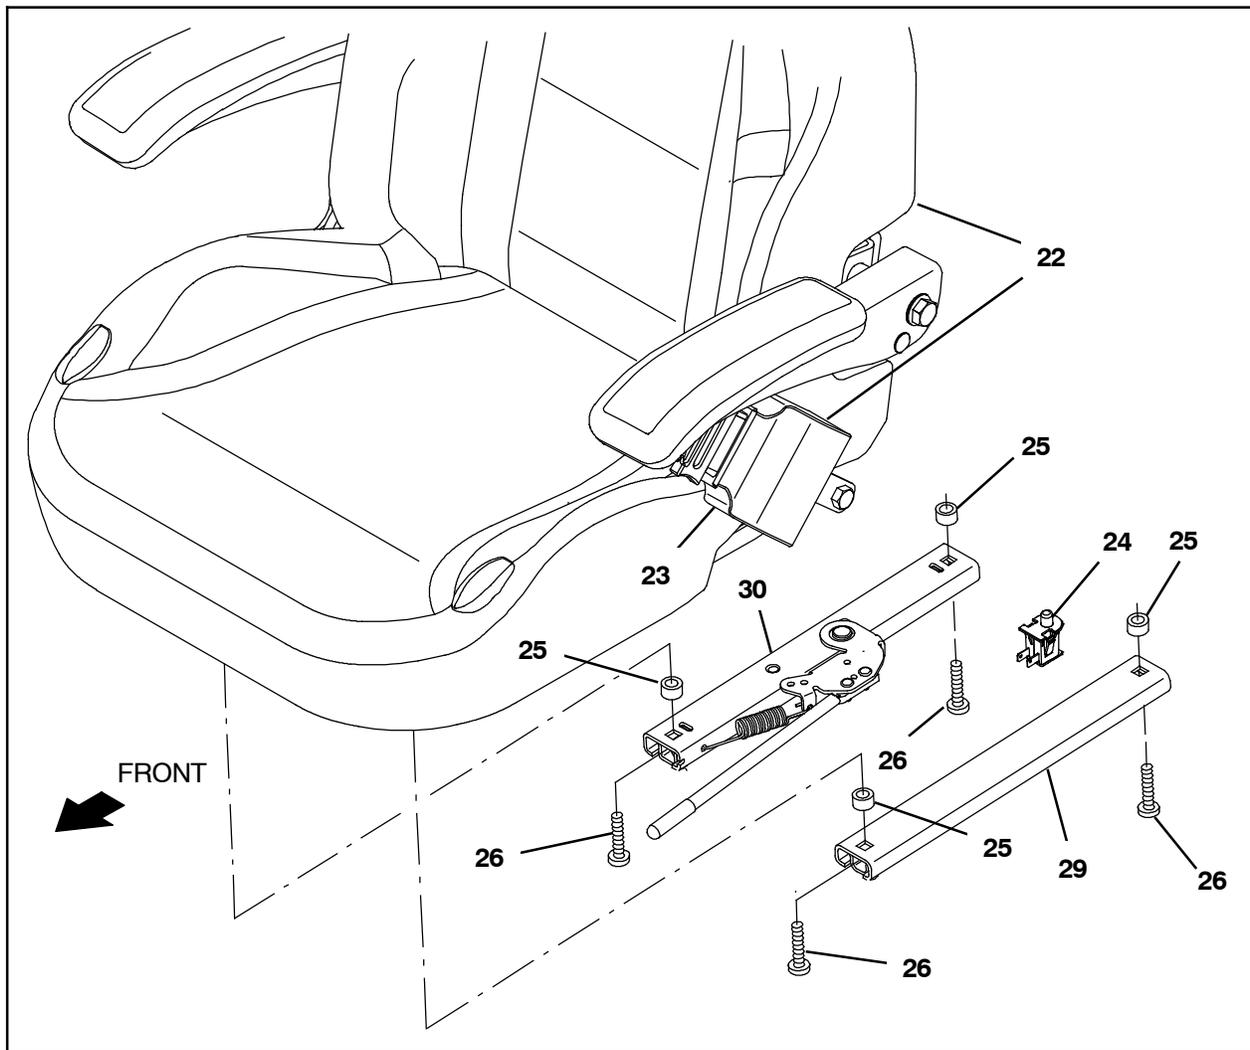

FIG. 3
1. Install the seat switch (24) into the operator seat (22). (Fig. 3)
2. Use two pan screws (26) and two spacers (25) to install the adjustable slide track (30) onto the operator seat (22). (Fig. 3)
3. Use two pan screws (26) and two spacers (25) to install the slide track (29) onto the operator seat (22). (Fig. 3)